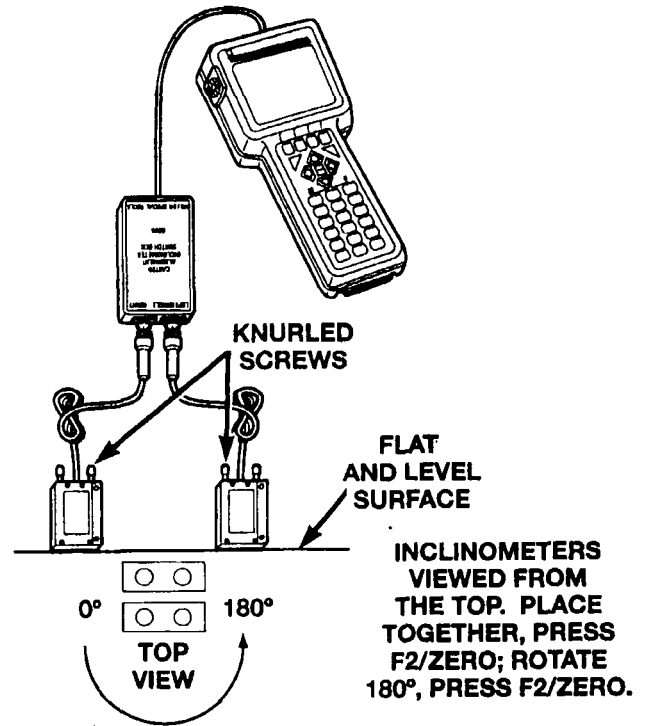

Figure 55
- i. Place both inclinometers together on a known flat level surface such as the alignment rack, with the knurled ends of the fastening screws facing upward (Figure 55).